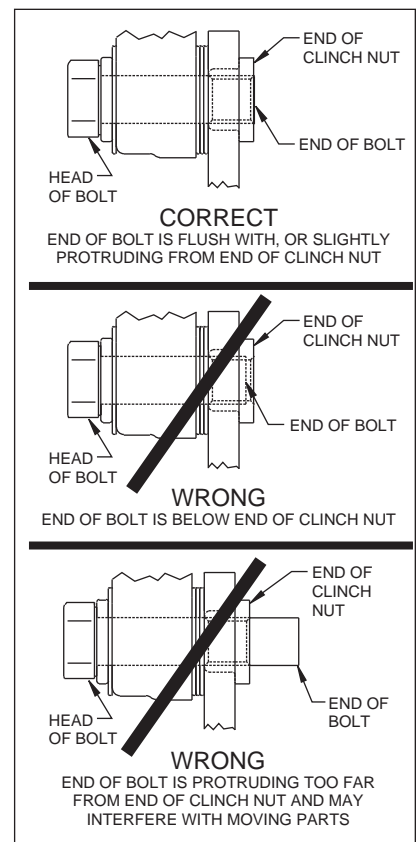

Figure 4.
- Align the correct hole pattern in the hat (2) with the stud pattern on the axle flange. **NOTE:** Some OEM and after market axles come with stud sizes larger than 0.50" diameter. Verify stud size and have a qualified machine shop drill the hats to the correct size, if necessary. Slide the hat/rotor assembly (2 and 3) over the wheel studs and against the axle flange face.
- NOTE:** Please reference the caution statement at the beginning of the assembly instructions. WITH THE BLEED SCREWS POINTING UP, mount one of the two calipers (7) over the rotor (3) and onto the caliper mounting bracket (1) using washers (8) and mounting bolts (9). View the rotor through the top opening of the caliper. The rotor should be aligned in the center of the caliper. If not, adjust the caliper by using 0.032 inch shims (10) by placing them between the caliper mounting bracket (1) and the caliper (7). Add as many shim washers (10) as necessary to achieve the correct alignment. **NOTE:** The end of the bolt must be flush with or slightly protruding from the head of the clinch nut. See Figure 4. Place spare shims (10) between washer and caliper mounting ear to achieve the proper mounting fastener configuration. Always use the same amount of shims on both the top and bottom caliper mounting bolts (9). Apply red *Loctite*® 271 to the mounting bolt threads (9), torque to 30 ft-lb. Safety wire the caliper mounting bolts (9). Repeat this procedure again for the second caliper.
- Position the Wilwood disc brake pads (11) into the calipers (7) and secure in place with cotter pins (12). Steel backing plate side of brake pad should face the caliper pistons.